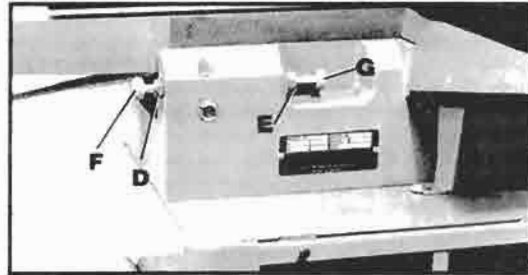

Fig. 26
Positive stops are provided on the jointer to limit the height and depth of the infeed table. To adjust the stops, simply loosen two locknuts (D) and (E) Fig. 26, and turn the two adjustment screws (F) and (G) as necessary. Retighten locknuts (D) and (E). We recommend that the height of the infeed table be adjusted so the table at its highest point will be 1/2mm below the highest point of the knives. This is an important feature of your jointer which enables you to rapidly position the infeed table for a finish or final cut.